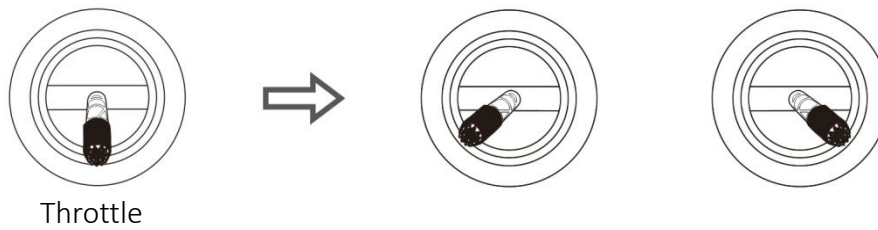

Figure 2-6 Land and Lock
Step 2: After the drone lands, place the throttle stick to the down position, and then perform the locking action as shown in Figure 2-6.